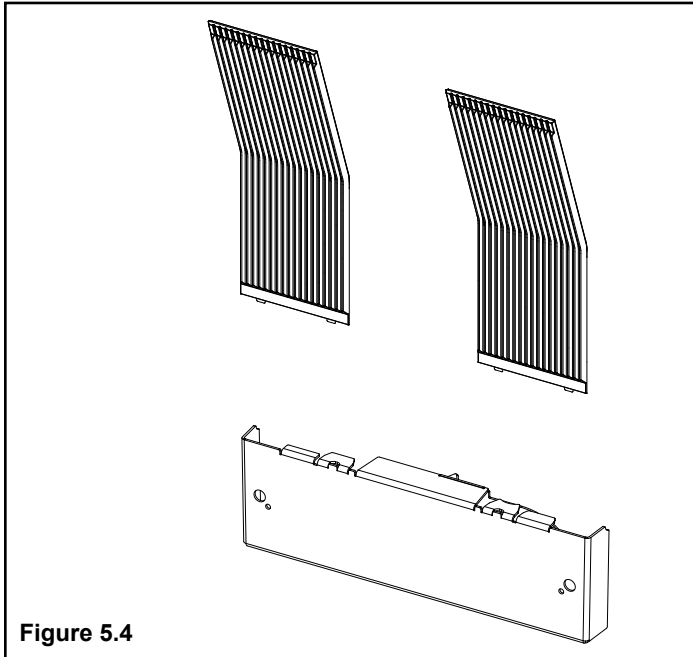
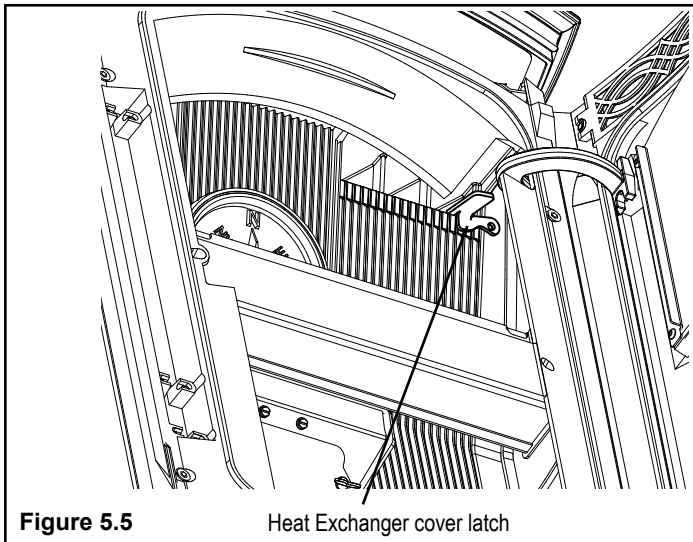
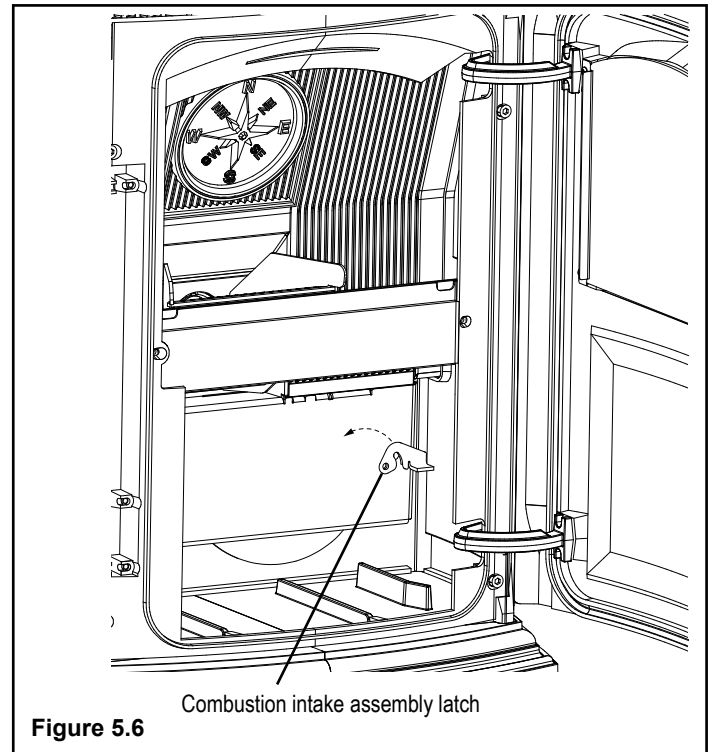

Figure 5.4
Figure 5.5 Heat Exchanger cover latch
Figure 5.6
- Remove the two heat exchanger covers. Figure 5.4 These covers are made of cast iron and are held into place with a swing latch in the upper right and left corners. Figure 5.5. Swing the latch upward far enough to release the top edge of the heat exchanger cover. Tilt the cover forward approximately 2" and lift it upward about 1" to release the bottom edge. The cover can now be taken completely out through the upper door opening. Repeat the process with the second heat exchanger cover.
- Remove the combustion intake assembly. Figure 5.4. The combustion intake assembly is held into place with two swing latches Figure 5.6. Swing each latch until it hangs down away from the retainer stud. Now the assembly can be taken out by tilting the right side outward first through the lower door opening.